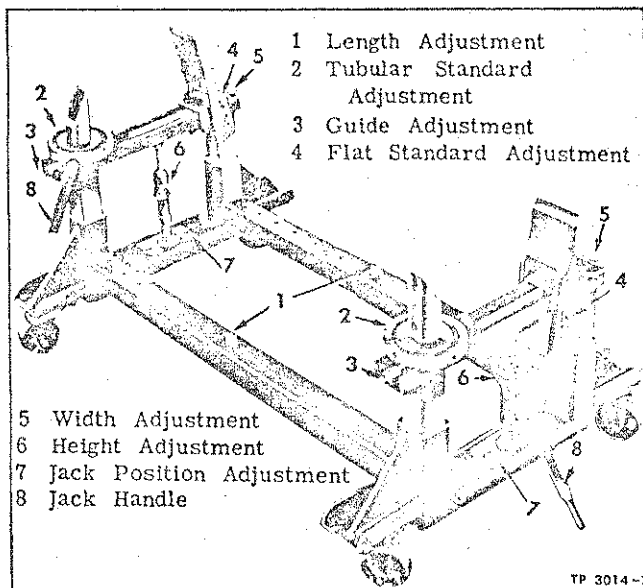

Figure 2—Power Plant Dolly
3. Remove center rear door to bumper bolts (A). Raise center door and provide a suitable means of holding door fully opened.
4. Remove bumper right hand pin (B) and swing bumper outward away from engine.
9. Unscrew propeller shaft slip joint (C). When engine is removed propeller shaft will separate at slip joint.
10. Remove bumper channel bolts (D) and diagonal brace bolts (E). Remove channel and braces as an assembly.
11. Place special dolly (fig. 2) under engine and raise engine sufficiently to relieve pressure on mounting bolts.
12. Disconnect engine strut rod eye at strut rod bracket (F) on engine.
13. Remove transmission to insulator bolts, (G) at right hand corner strut.
14. Remove transmission to engine support bolts (H) at engine right hand support. Also battery ground strap.
15. Remove transmission insulator to frame bolt nut (I), at bulkhead side of transmission.
17. Remove right and left hand engine support member to right and left hand strut bolt (J) and allow support member to swing down.
19. Remove bolts (K), attaching engine front support insulator to front support.